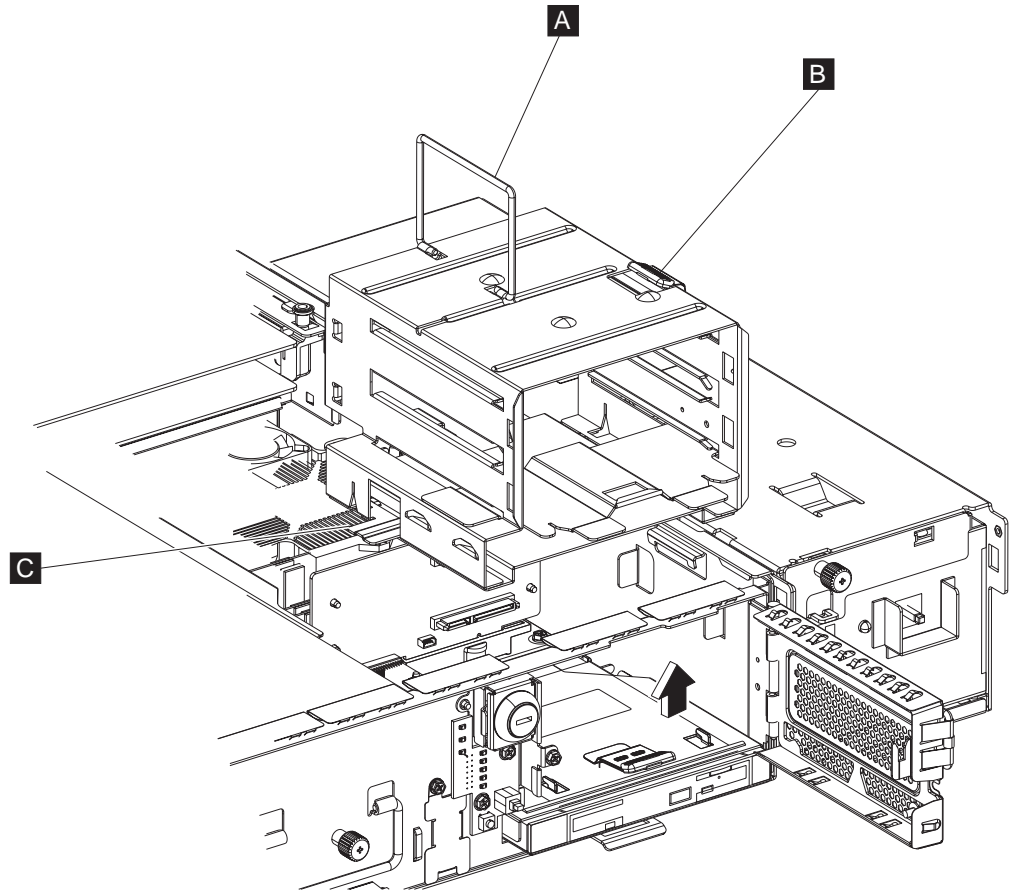

Figure 34. Removing the DASD cage
3. While holding the DASD cage handle ( **A** in Figure 34 on page 45), push down on the cage lock tab ( **B** ) with your thumb and pull up.